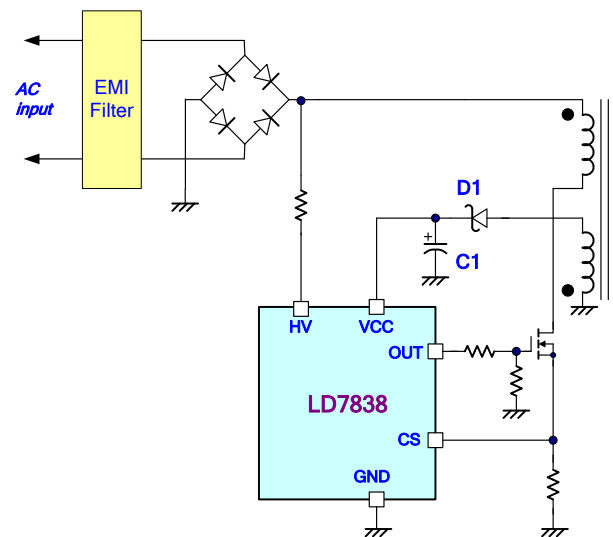

Fig. 13 High voltage start up circuit
To achieve optimized topology, as shown in Fig. 13, LD7838 is implemented with a high-voltage startup circuit to enhance it. During startup, a high-voltage current source sinks current from the full-bridge rectifier to provide the startup current and charge Vcc capacitor C1 at the same time. On condition of VCC below UVLO(ON), the charge current will increase to 1.8mA once VCC rises above UVLO(ON) voltage threshold during start up. Meanwhile, it consumes only 75μA for VCC supply current, that most of the HV current is